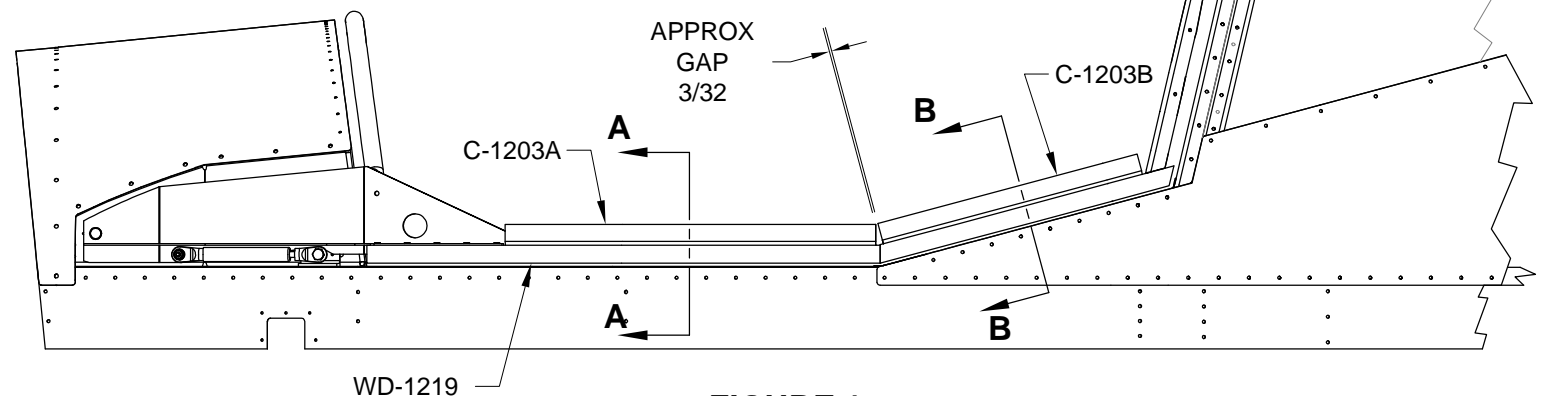

FIGURE 1:
Step 2: With the inbd edge of the C-1203A Attach Angle held flush to the inside surface of the canopy frame side as shown in Section A-A and the fore/aft position as shown in Figure 1, match-drill #30 the attach angle to the canopy frame and cleco.